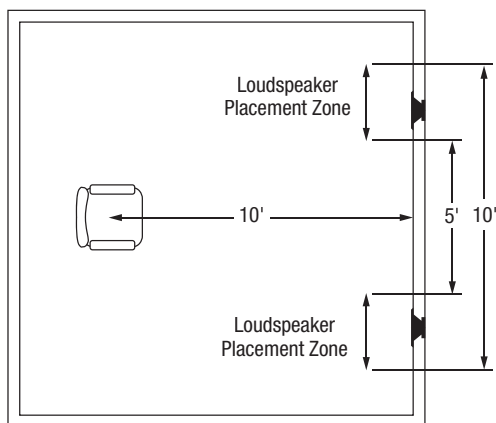

Figure 1. Recommended HDLCR_{BX} loudspeaker placement for front left and right channels.
- *In home theater applications where there is a center channel, you may choose to space the left and right main loudspeakers farther apart for a "bigger than life" sound with Dolby® encoded movies and TV shows. However, for combined music and movie usage, we recommend using the placement zone for stereo music. Ideally, if the listening position is 10 feet back from the wall, place the loudspeakers between 5 and 10 feet apart, as shown in **Figure 1**.*